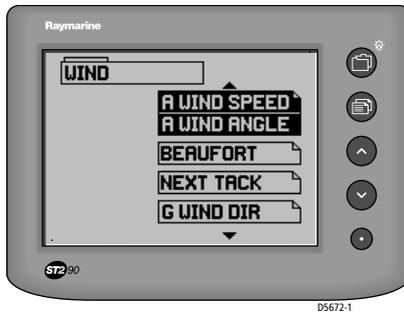

Figure 2-3: Page select menu
3. Press  to display the Page menu for the selected chapter (see *Figure 2-3* ).